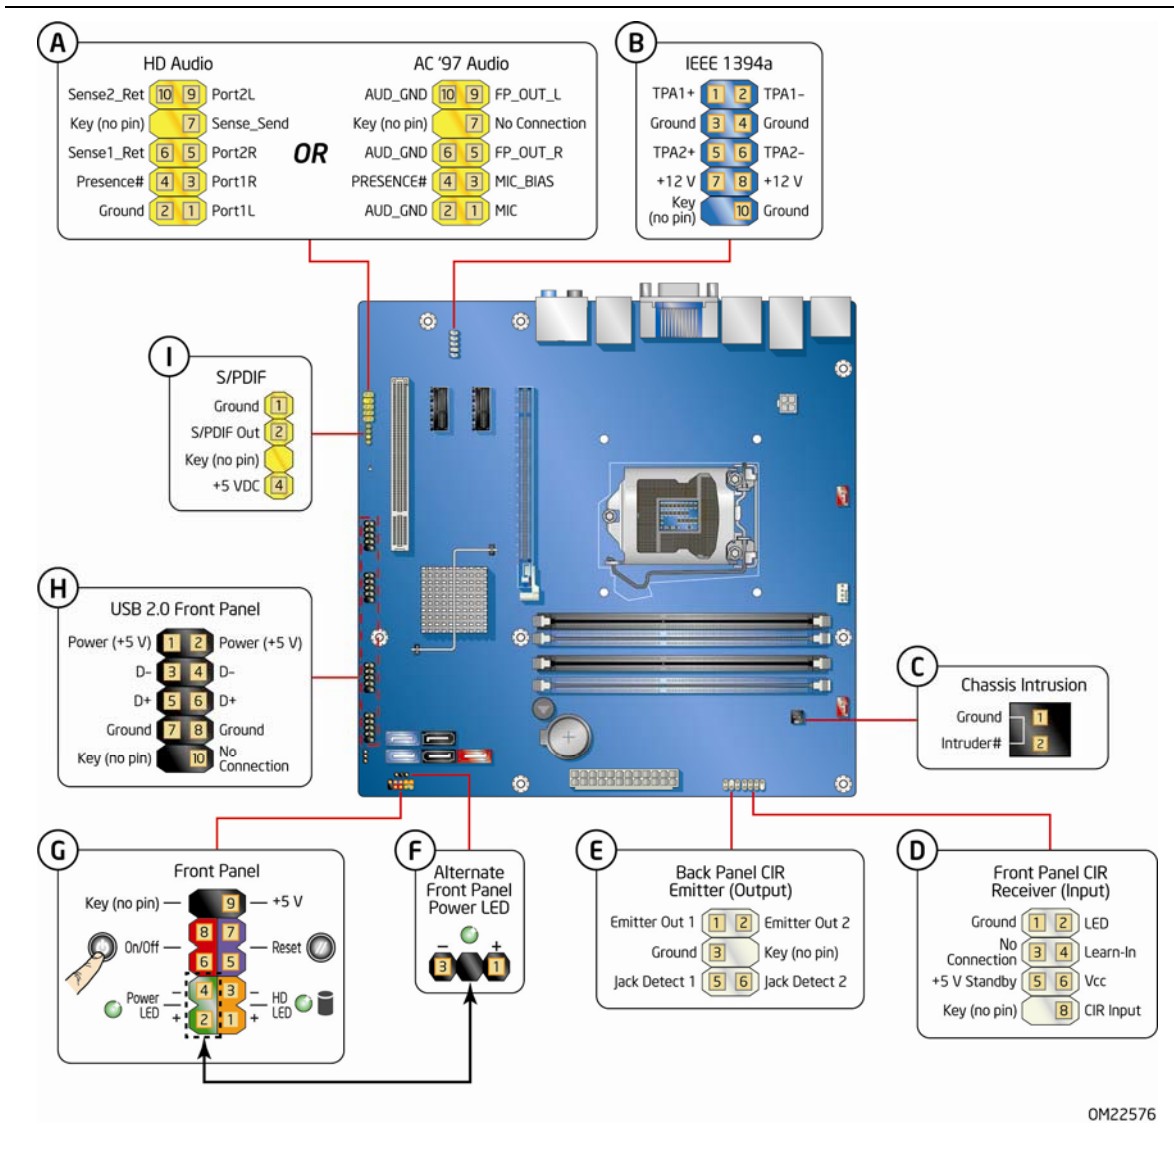

Figure 20. Internal Headers
Before connecting cables to any of the internal headers, observe the precautions in “Before You Begin” on page 27. Figure 20 shows the location of the internal headers and connectors on Intel Desktop Board DH67GD.
The front panel audio header shown in Figure 20, A supports both Intel High Definition (HD) Audio and AC '97 Audio.